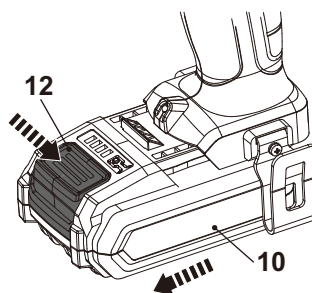

Fig. 5
3. Press the release button (12) and slide the battery pack (10) from the battery docking port (12) (Fig. 5).